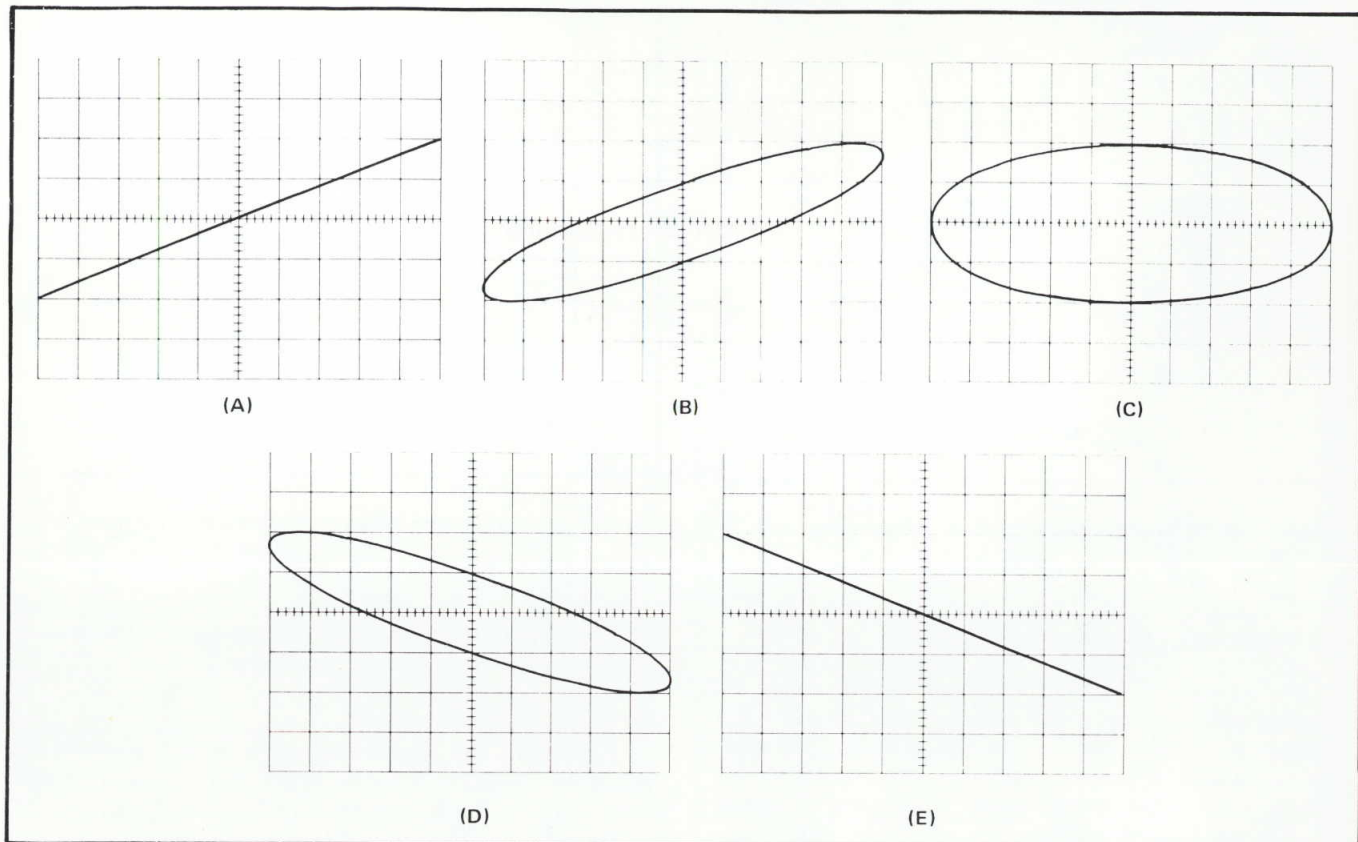

Fig. 2-10. Phase of a Lissajous display. (A) 0° or 360° , (B) 30° or 330° , (C) 90° or 270° , (D) 150° or 210° , and (E) 180° .
5. Divide B by A to obtain the sine of the phase angle (Φ) between the two signals. The angle can then be obtained from a trigonometric table. If the display appears as a diagonal straight line, the two signals are either in phase (tilted upper right to lower left), or 180° out of phase (tilted upper left to lower right). If the display is a circle, the signals are 90° out of phase. Fig. 2-10 shows the Lissajous displays produced between 0° and 360° . Notice that above 180° phase shift, the resultant display is the same as at some lower angle.